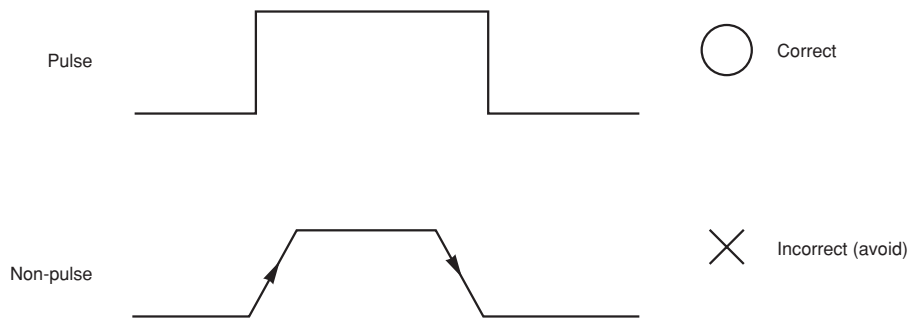

**Figure 13 Example of Distribution of Relay Operate Voltage**
- ① Since the coil of a relay has an inductive impedance, a counter electromotive force is generated when the circuit is opened. This voltage may damage the relay driver IC. Therefore, with a double coil latch type current holding relay, a diode is connected in parallel with each coil, as shown in figure 13. With a single coil latching type relay, however, a diode cannot be used because the current direction of the coil is inverted. Therefore, the driver circuit of this relay must be designed and confirmed in the actual circuit.